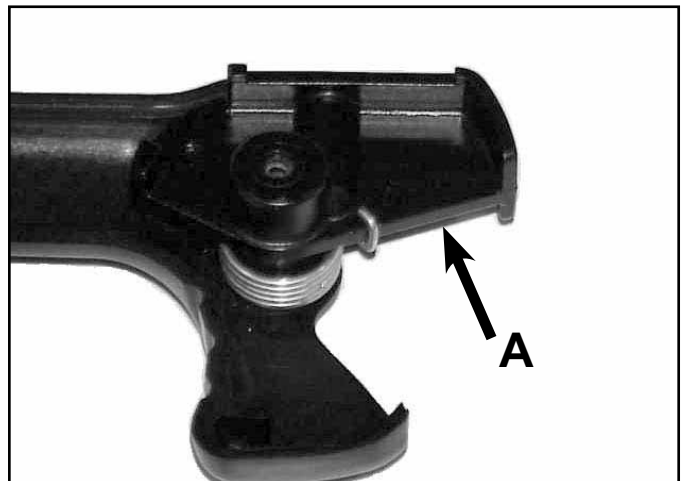

Fig 026
2. Slide the latch trigger over the boss until it is fully seated, making sure that the stop on the trigger lever is above the stop on the quick lever, as shown. While holding the trigger lever in place, rotate the hooked end of the spring until it hooks under the front edge of the trigger lever as shown (Fig. 026).